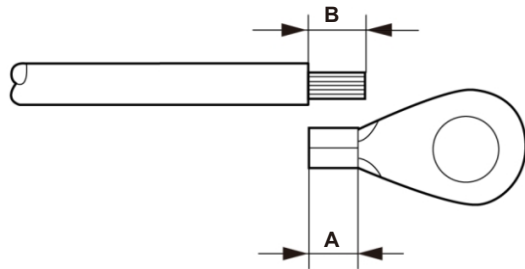

Figure 3.16 Suitable length
- 3) Strip the ground cable insulation to a suitable length(see Figure 3.16).